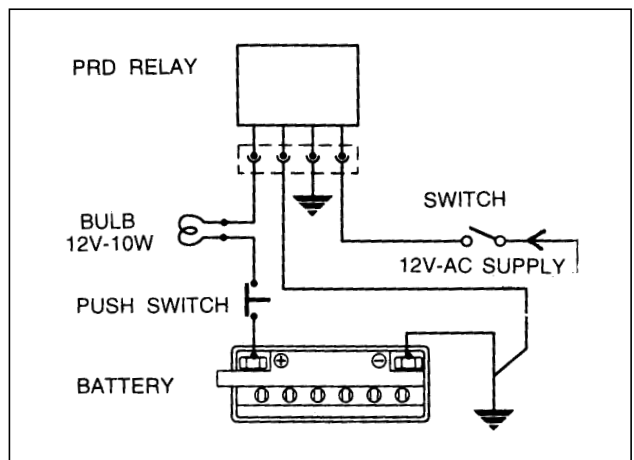

Fig. 30
- (a) Connect the P.R.D., bulb (12V-10W), battery (12V), push switch, ON/OFF switch and 12 volt A.C. supply as shown in fig.30